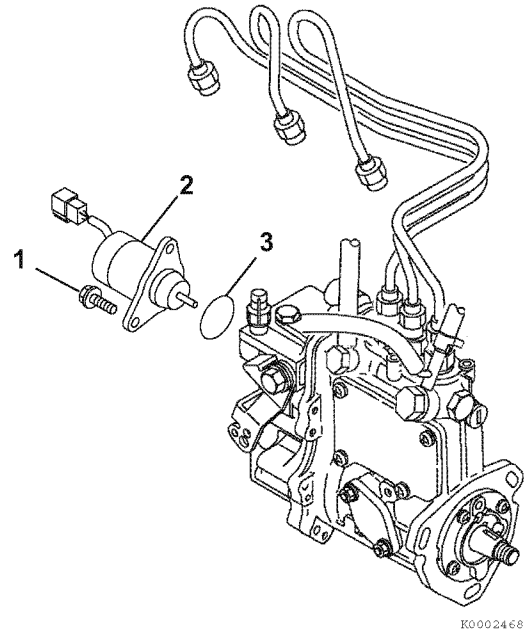

Figure 7-27
3. Remove two screws (Figure 7-27, (1)). Remove the stop solenoid (Figure 7-27, (2)) and O-ring (Figure 7-27, (3)).